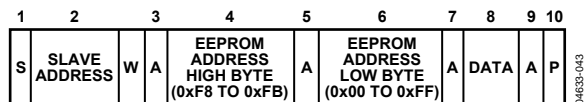

Figure 38. Single Byte Write to the EEPROM
- To write a single byte of data to the EEPROM. In this case, the command byte is the high byte of EEPROM Address 0xF8 to EEPROM Address 0xFB. The first data byte is the low byte of the EEPROM address, and the second data byte is the actual data, as shown in Figure 38.